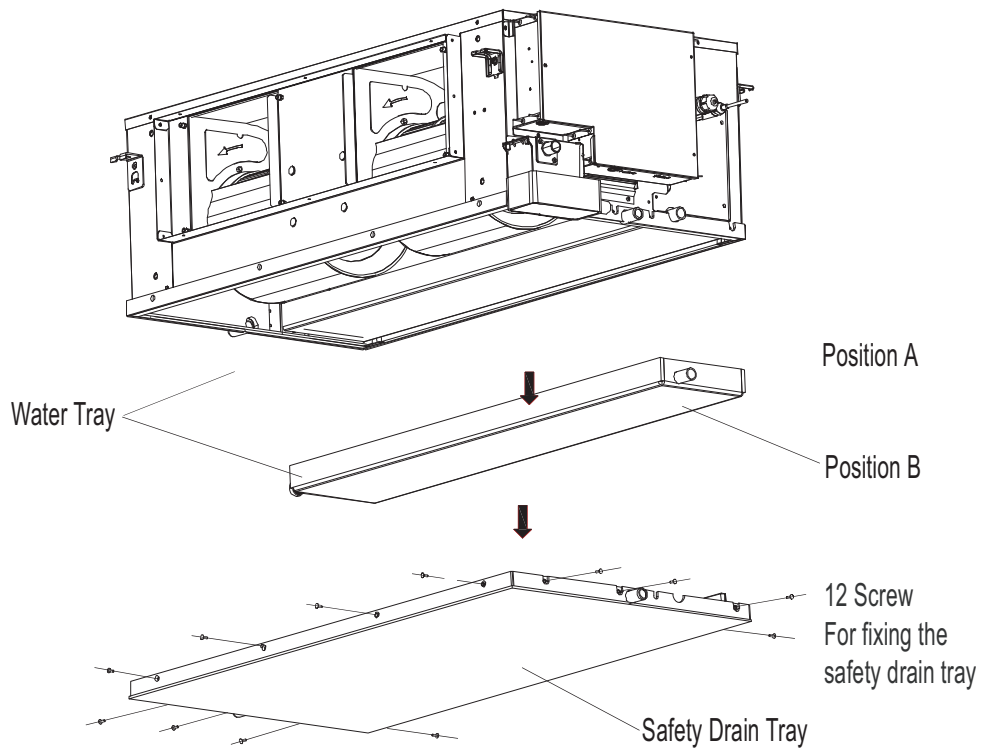

Fig. 41 —Fan Disassembly (048-054)
1. Remove the 12 screws from the fixed Safety Drain T ray, and then take off the tray (see Fig. 41).
2. Take off the tray along the direction of the arrow (see Fig. 41).